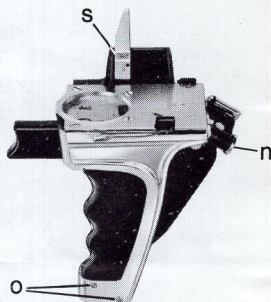

Fig. 5
- Then screw the other end into the hand grip (fig. 5), keeping a finger on the release. The length of the cable is correctly adjusted when there is absolutely no play and when the slightest pressure on the hand grip trigger moves the pre-selection plunger of the lens.
- Lock the connecting cable by tightening up the screw(s), (fig. 5).